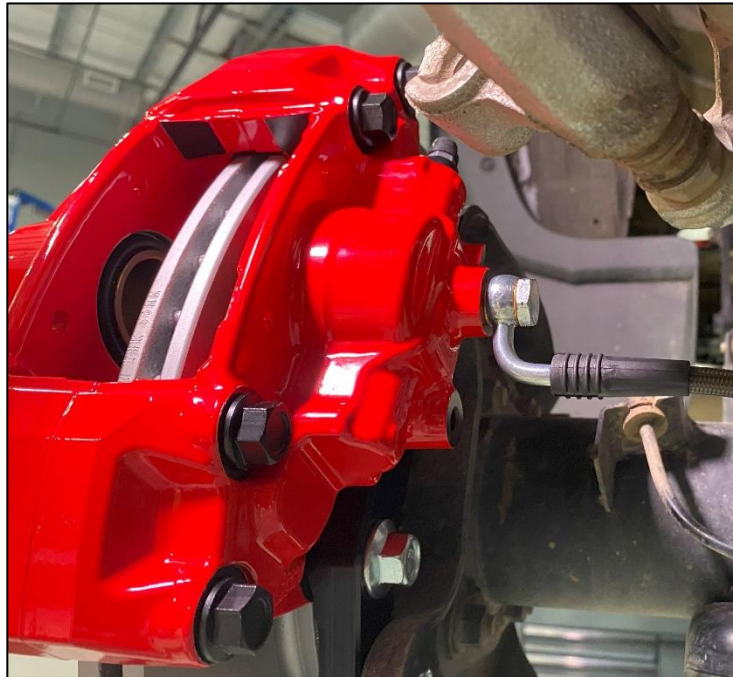

Figure 6
15. Install the Banjo Bolt and Brake Line into the back of the Caliper. Start the threads of the Banjo Bolt by hand before tightening with a wrench. Torque the Banjo Bolt to **13 ft-lbs.** *Figure 6.*